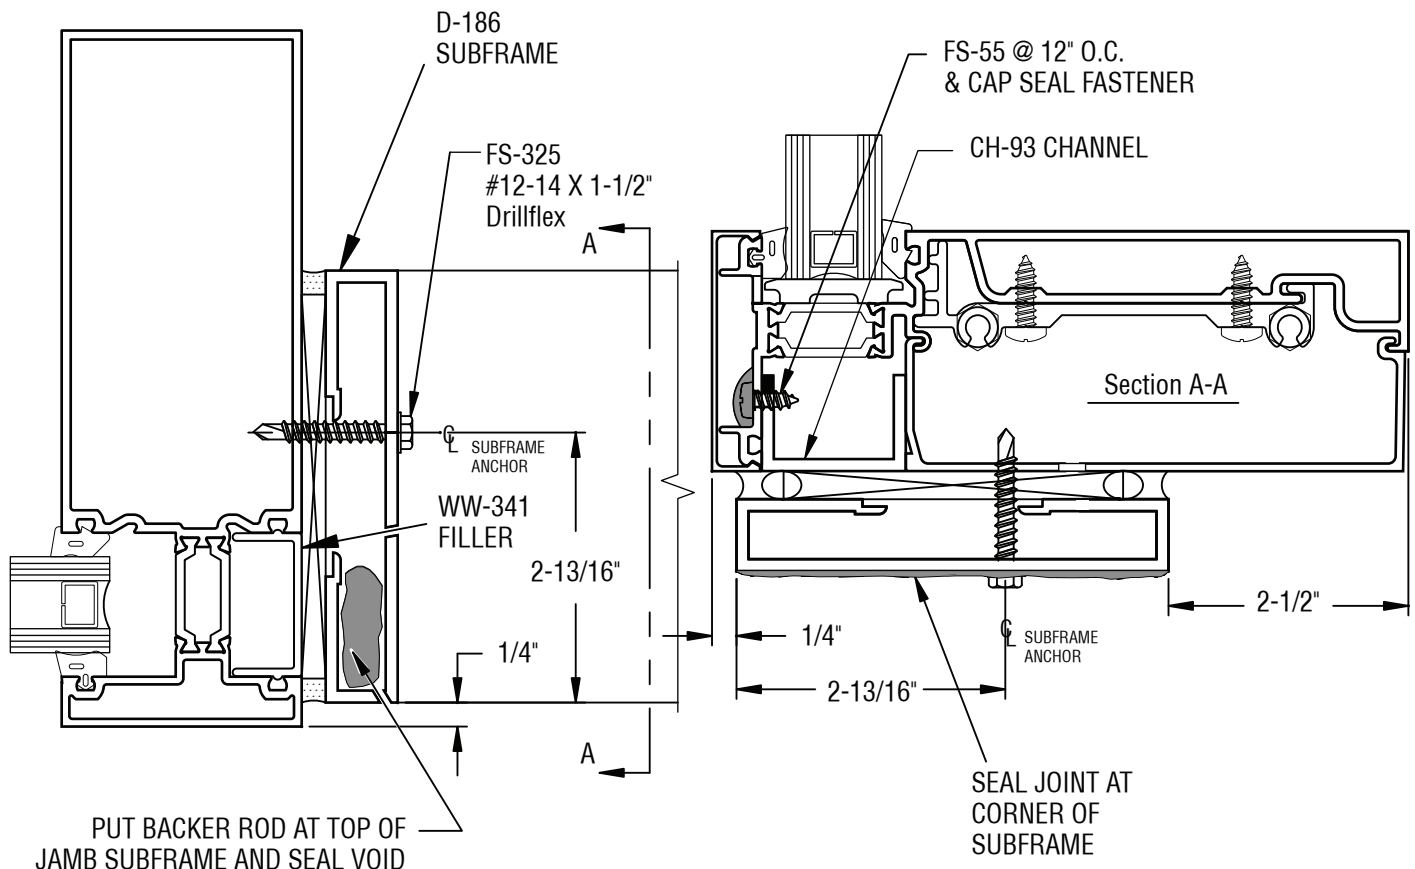

Figure 30
- C.2.1 Attach TH-44 threshold clip to bottom of each jamb subframe with two (2) FS-256 #8 x 1 1/2" Phillips Round Head Screws.
- C.2.3 Bed subframe in sealant and anchor to curtain wall framing members with FS-325 #12-14 x 1 1/2" Drillflex at 18" O.C. Seal joint between jamb and header subframe. Seal also the tops of the jamb subframe. **SEE FIGURE 30.**